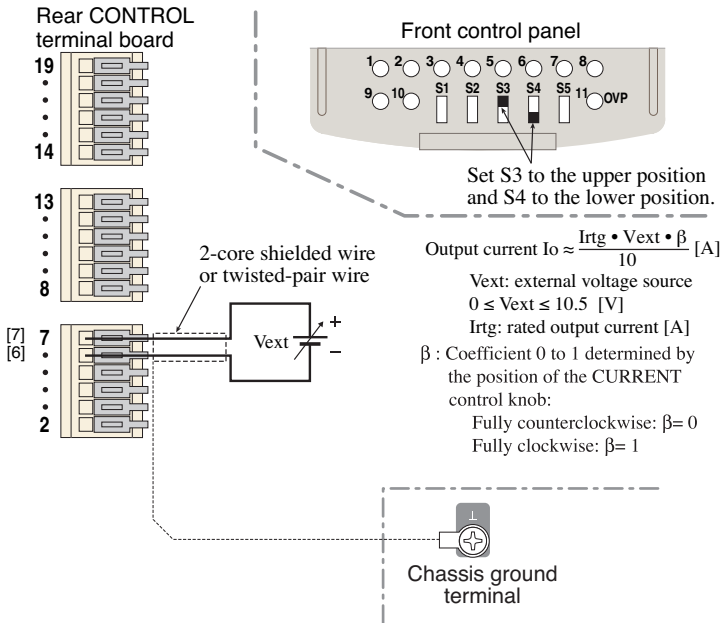

Fig.4-12 Connection and setup for output current control using external voltage
**NOTE** • For output current control with an external voltage, you can use the current CURRENT control knob to adjust the ratio of the output current to the input voltage from the external voltage source ( $V_{ext}$ ). (See Fig.4-12.)
4. Set the control switches S3 and S4 to the position as shown in Fig.4-12.
5. Connect the voltage source across the control terminals [6] and [7] as shown in Fig.4-12.